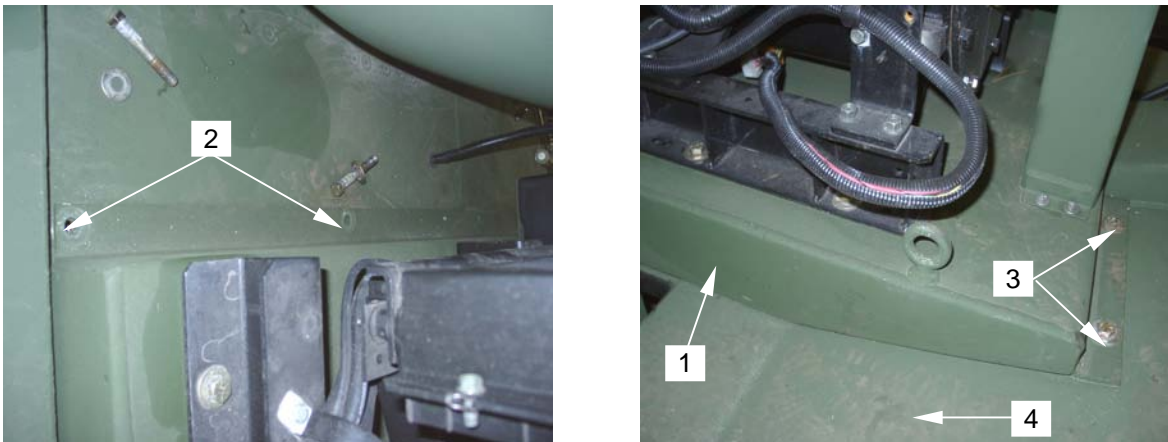

Figure 32. Securing Skid to Trailer Frame
26. Lift engine/vacuum pump skid (**figure 32, item 1**) off the dunnage and set it upon trailer frame so that mounting holes (**figure 32, item 2**) are aligned.
27. Install seven bolts, nuts and flat washers (**figure 32, item 3**), securing the engine/vacuum pump skid (**figure 32, item 1**) to the trailer frame (**figure 32, item 4**).